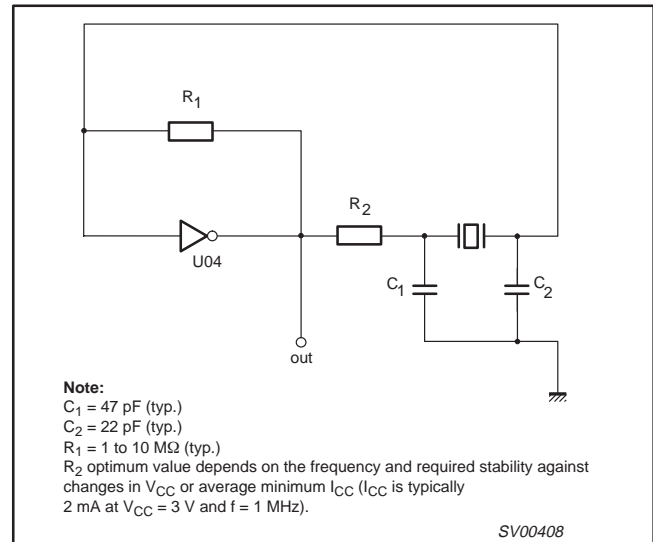

Figure 5. Crystal oscillator configuration.
- In crystal oscillator designs (see Figure 5)
Note to Figure 5